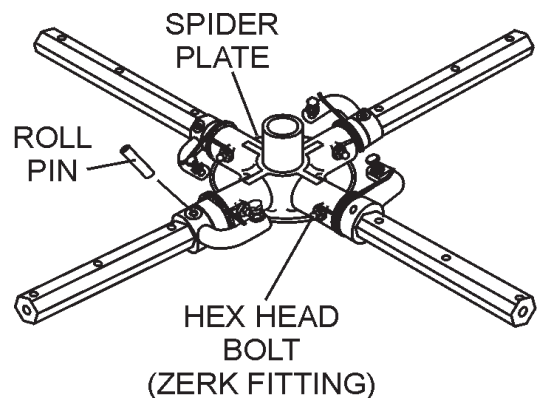

Figure 22. Removing Roll Pin and Zerk Grease Fitting
1. Each trowel arm is held in place at the spider plate by a hex head bolt (zerk grease fitting) and a roll pin. Remove both the hex head bolt and the roll pin (Figure 22) from the spider plate.